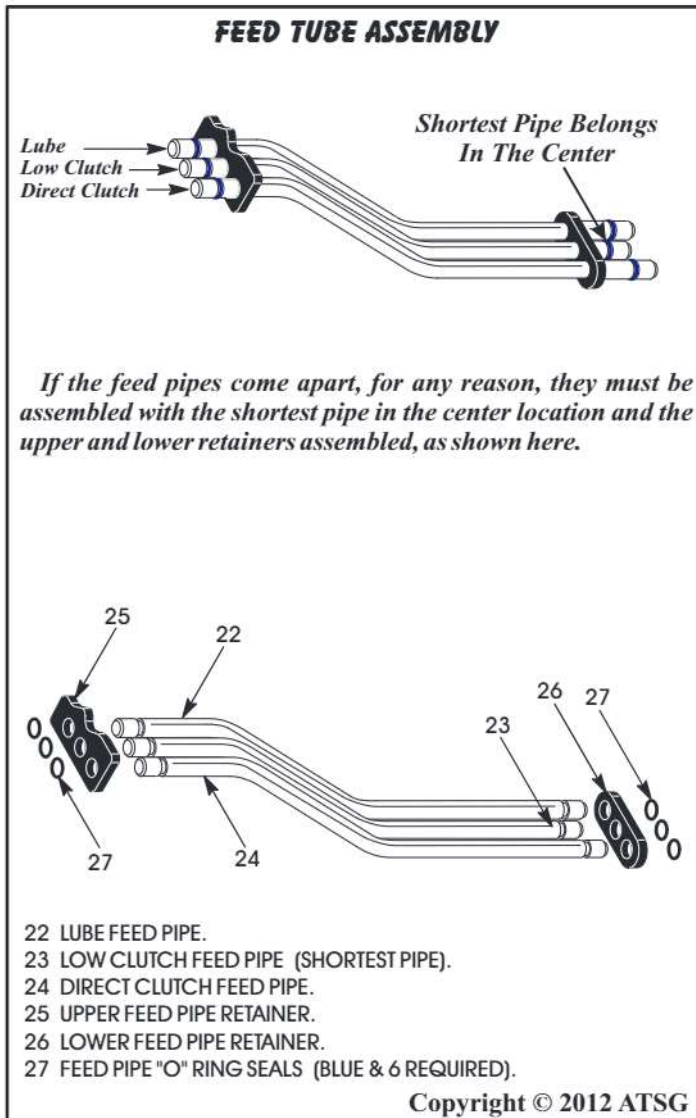

Figure 275
81. If the feed tube assembly has come apart during the cleaning process, which they sometimes do, refer to Figure 275 for proper assembly.
82. Install new "O" ring seals on the ends of all 3 feed tubes, as shown in Figure 275 and lube with small amount of Trans-Jel®.